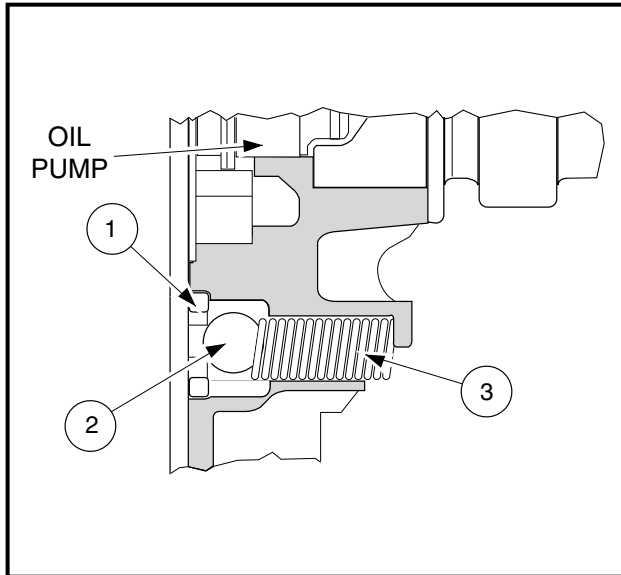
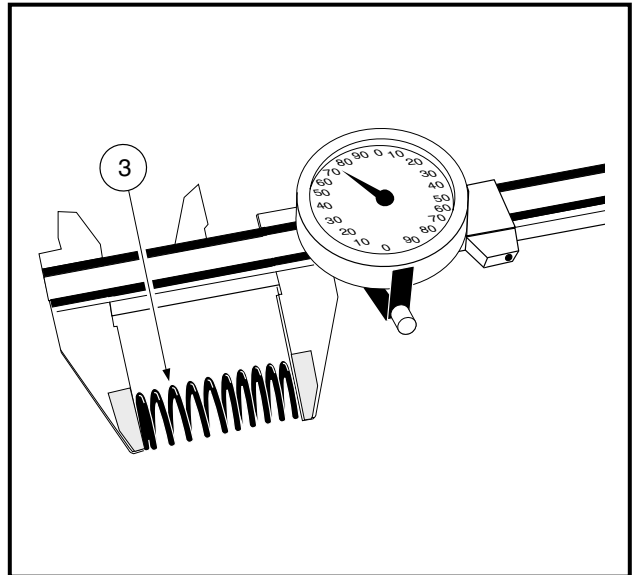

Figure 13-69 Oil Pressure Relief Valve
Figure 13-70 Measure Free Length of Spring
2. Remove the valve seat (1), ball (2) and spring (3) (**Figure 13-69, Page 13-35**).
1. Note the condition of the ball (2) and the valve seat (1). They must not have any nicks or burrs. Replace if necessary (**Figure 13-69, Page 13-35**).
2. Inspect the relief valve spring (3) for pitting, cracks, rusting and burrs. Replace if necessary.
3. Measure free length of the spring (3) with a vernier caliper (**Figure 13-70, Page 13-35**). If the free length of the relief valve spring is less than 0.748 inches (19.00 mm), replace the spring.